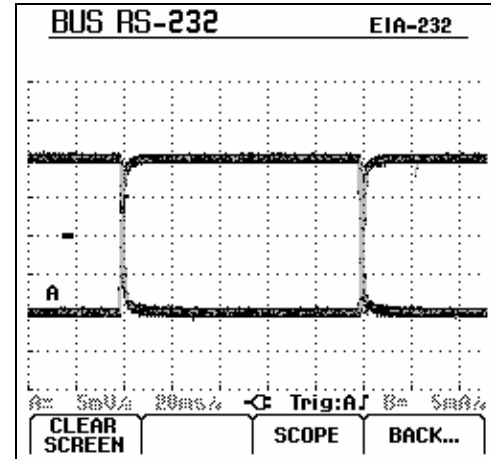

Figure 4-4. Eye Pattern Screen
- ①  In the main screen select eye pattern mode. You will see a screen like figure 4-4.